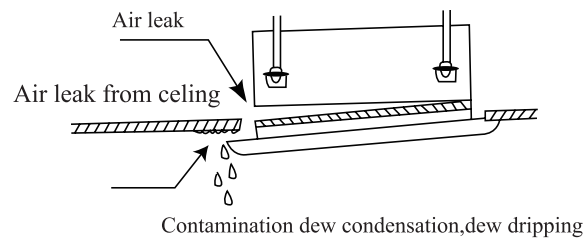

Fig.24
1. Improper screwing of the screws may cause the troubles shown in Fig.24.